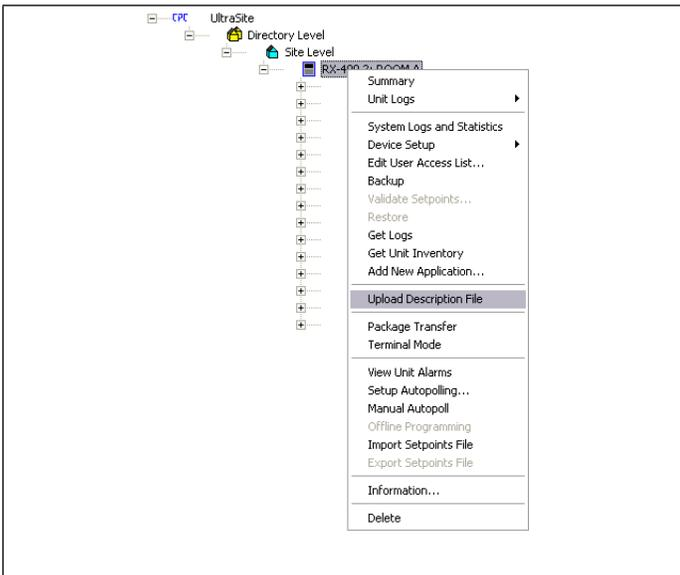

Figure 4-1 - Update Description File
2. Expand UltraSite to view Directory Level and Site Level see **Figure 4-1**.